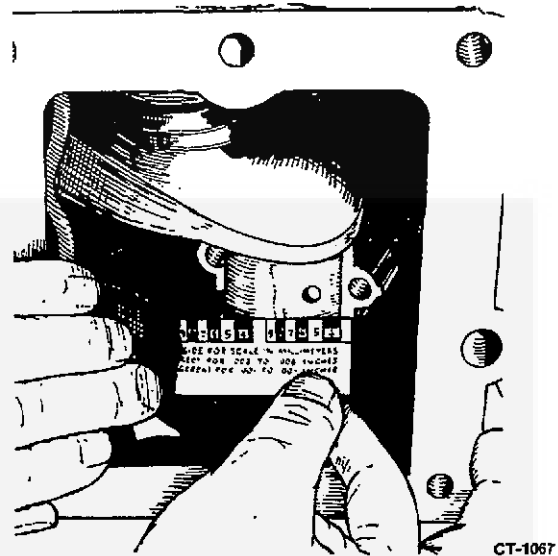

FIGURE 9-27. MEASURING BEARING CLEARANCE
4. Remove the bearing cap and leave the flattened Plasti-gage on the part to which it adheres. Compare the widest point of the flattened Plasti-gage with the graduations on the envelope (see Figure 9-27) to determine the bearing clearance.